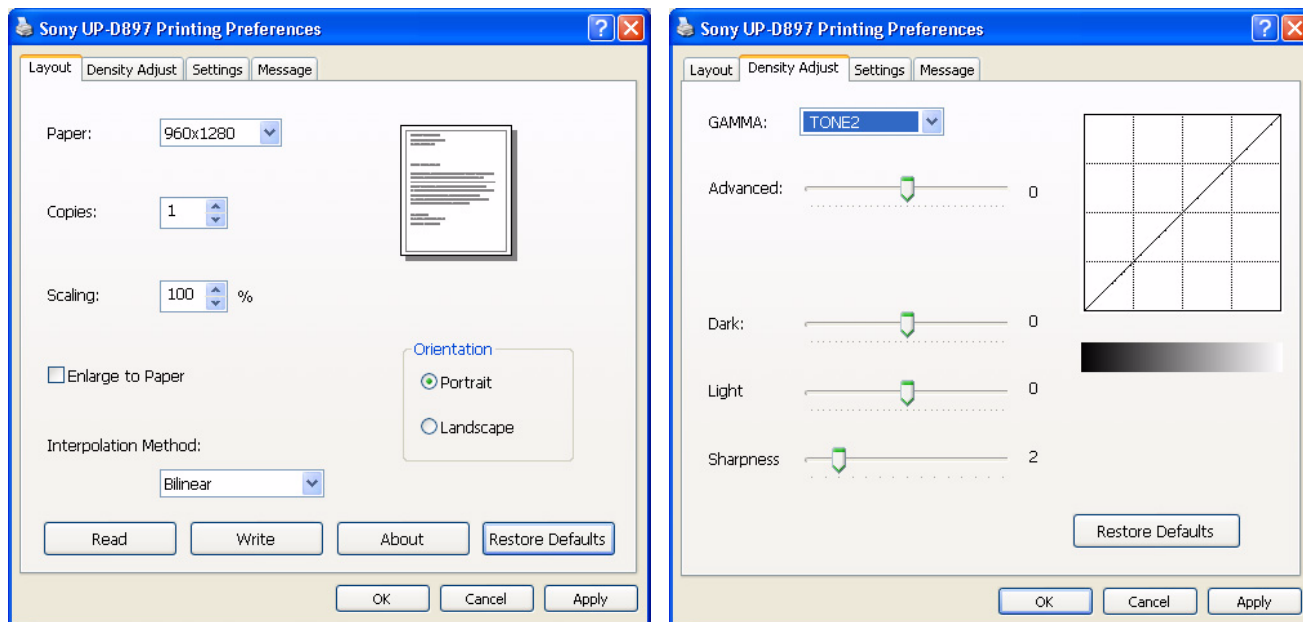

Figure 3-50 Layout + Density Adjust page
- 2.) Select the LAYOUT page (see: Figure 3-50 below) and select:
- 3.) Select the DENSITY ADJUST page (see: Figure 3-50 above) and select: